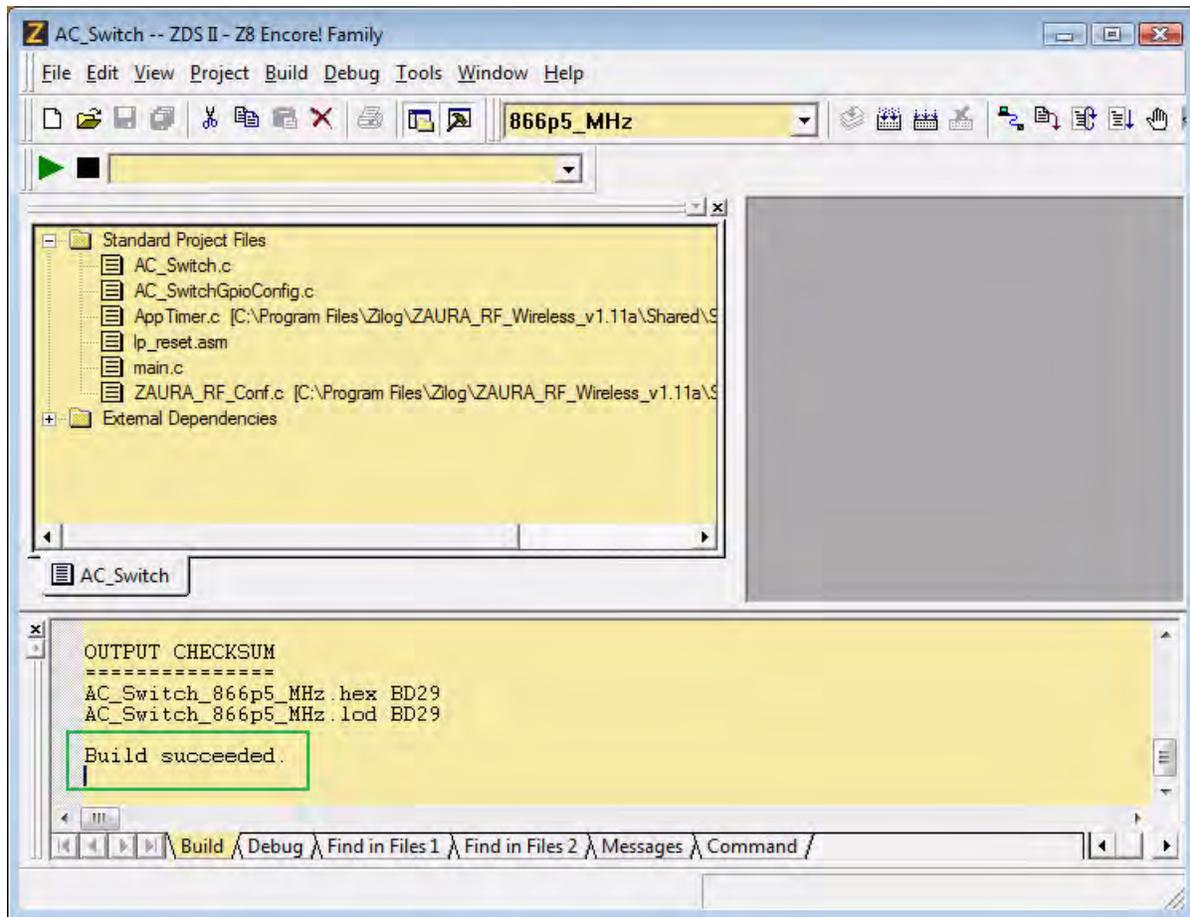

Figure 8. A Successful Build
9. When the rebuild is complete, a `Build succeeded.` message will appear, as highlighted in Figure 8.